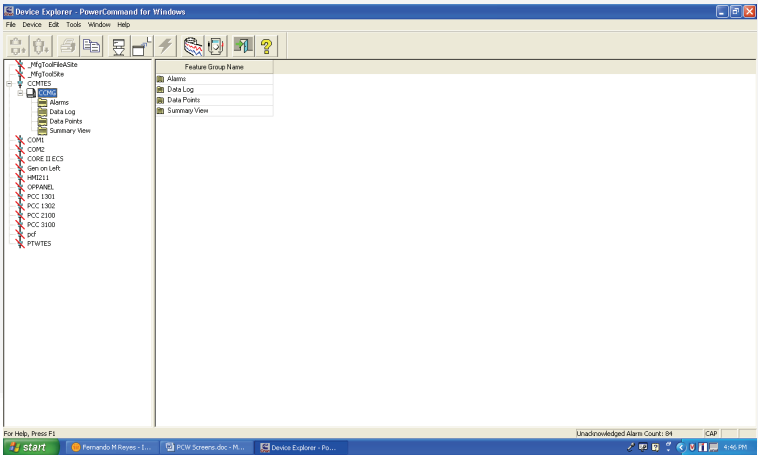

FIGURE 2-50. DEVICE EXPLORER – CCM
12. Start Power Command for Windows and click on the CCM network (see Figure 2-50). Alarms, Data Log, Data Points (see Figure 2-51), and Summary View (see Figure 2-52) screens can be viewed.